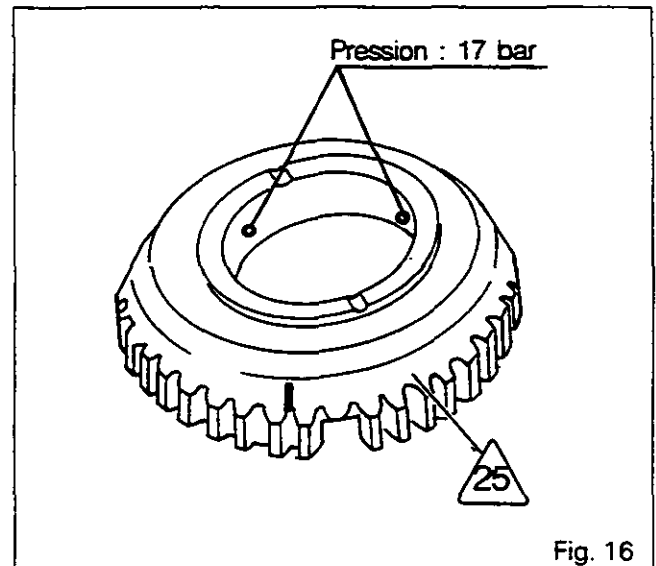
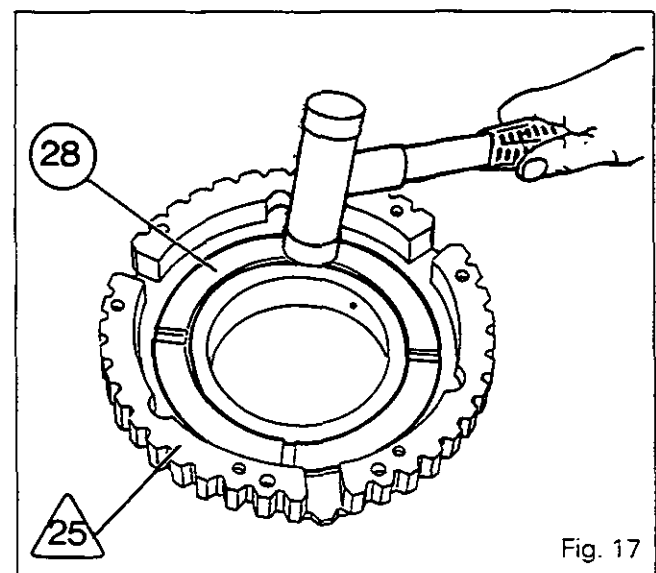

Fig. 16
Fig. 17
43. Make sure that the three openings into the 17 bar passage in the hydraulic cover /25\ are not blocked (Fig. 16).
44. Lubricate O-rings (26) and (29) and fit them to piston (28).
47. Tap the piston (28) gradually home into the cover by working progressively round its face with a plastic-faced mallet (Fig.17).
48. Refit the splined hub (15) making sure it is correctly orientated.
49. Refit pressure plate (47), spring washer (46), disc (45), pressure plate (44), spring washer (43), disc (42) and pressure plate (41).
N.B. : Place the gaps in spring washers (43) and (46) in diametrically opposed positions.